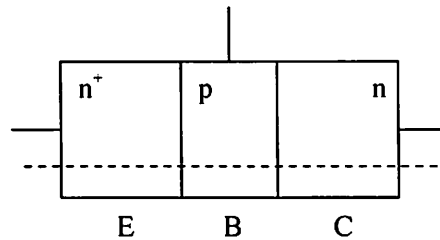

Figure 3.1: A cross-section of a short n^+pn BJT in forward active mode.
- a) Knowing that for a bipolar junction transistor in forward active mode, the emitter-base junction is forward biased and the base-collector junction reverse, draw the common **emitter** biasing circuit for the n^+pn BJT in Fig. 3.1.
- b) Draw the energy band diagram (E_c , E_v , E_F , E_G) of the short n^+pn BJT of question (3.a) along the dashed line in Fig. 3.1. [3] marks for each region + [1] mark for accurateness.
- d) i) The n^+pn Si BJT of Fig. 3.1 has a uniform area of 10^{-4} cm^2 , an emitter length of 200 nm, a base width of $0.5 \text{ } \mu\text{m}$ and a collector length of 0.5 mm. The emitter doping is 10^{18} cm^{-3} and the base and collector doping are 10^{16} cm^{-3} . Calculate I_C for $V_{EB} = 0.26 \text{ V}$ and $V_{BC} = -1 \text{ V}$ at $T = 300\text{K}$. The mobility of minority carrier electrons is $200 \text{ cm}^2/\text{Vs}$ and for minority carrier holes is $150 \text{ cm}^2/\text{Vs}$.